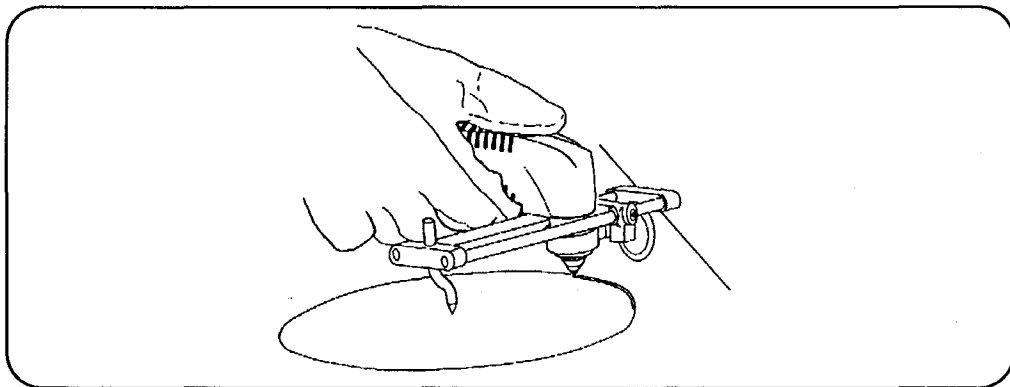

Figure 9 Cutting a Circle
- To cut perfect circles for spin fittings, use a template or a radius cutter attachment (Fig. 9).